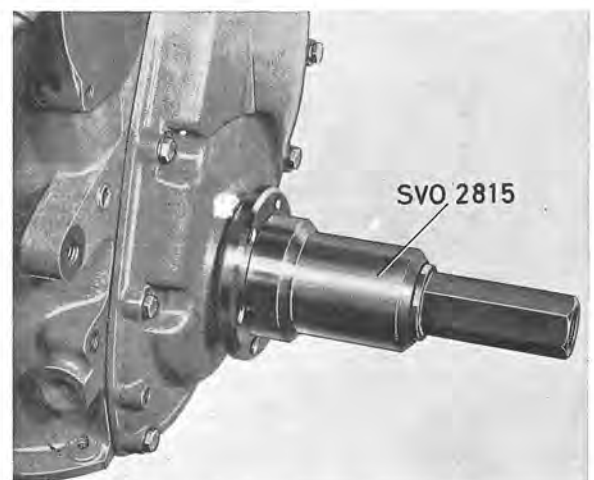

Fig. 2-39. Fitting polygon hub
5. Fit the polygon hub with tool 2815, see Fig. 2-39. Before fitting, the sliding surfaces of the polygon hub should be greased. **Note the marking**, that is, the center punch marks on the crankshaft end and polygon hub. Fit the center bolt and tighten it to torque of 70–80 Nm (50–57 lbft).